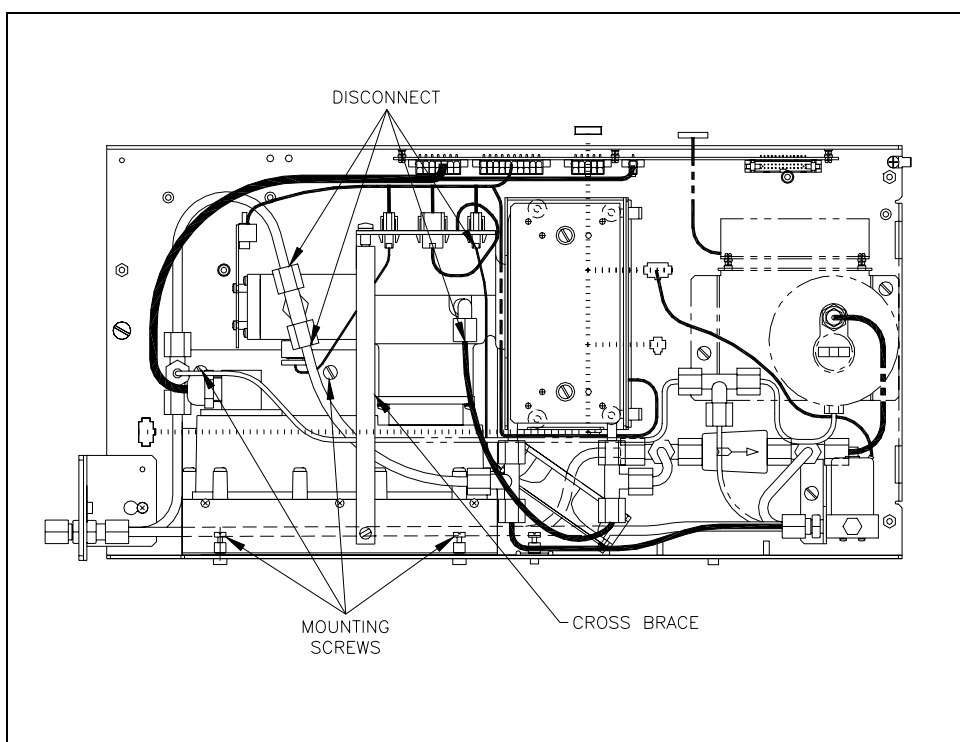

Figure 16. Rx Cell/PMT Housing Removal (SERIES B)
3. Disconnect the 1/8" tubing from the Rx cell inlet and both 1/4" tubing lines from the tee on the Rx cell outlet. Be sure to note which 1/4" line connects to which side of the tee. Refer to Figure 16.
4. Disconnect J1, J2, and J4 from the Preprocessor PCA and disconnect the PMT housing fan power cable (the front connector) from the Rx cell bulkhead. Refer to Figure 16.
5. Loosen the captive screws that secure the PMT housing to the chassis (two screws secure to the side of the chassis, and two screws secure to the bottom of the chassis). Refer to Figure 16.